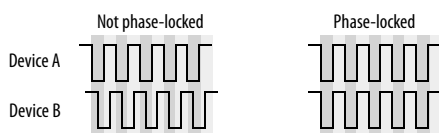

Figure 5-18: When transferring audio, two devices must have phase-locked audio clocks to prevent clicks, pops or other artifacts.
- Synchronizing with other digital audio devices so that their digital audio clocks are *phase-locked* (as shown in Figure 5-18)